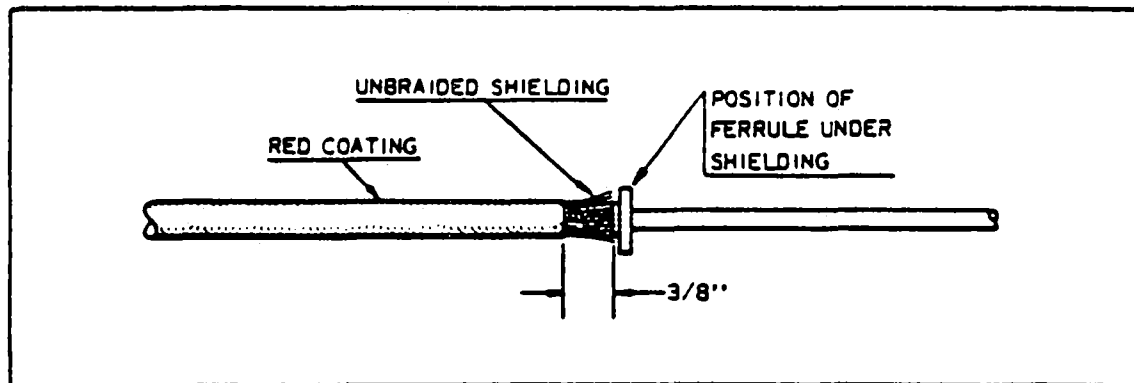
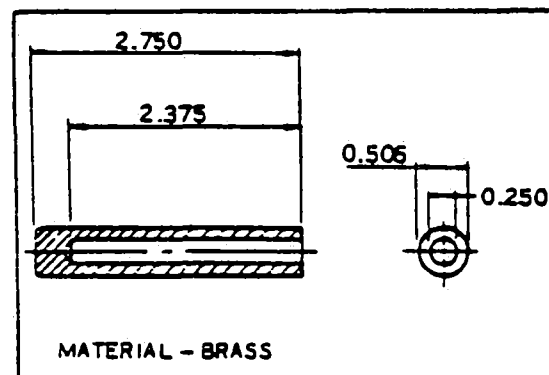

Figure 8-20. Forming Shielding Around Ferrule
Figure 8-21. Ferrule Seating Tool
11. Pass the taped end of new lead through hole in outlet plate. Remove electrical tape from lead and install tapered end of ferrule under the braided strands of shielding. Form strands of shielding evenly around tapered ferrule as shown in Figure 8-20 and pull lead assembly back through cable outlet plate until ferrule binds in the outlet well. Position the Scintilla 11-7074 Ferrule Seating Tool (Figure 8-21) over the wire and firmly seat the ferrule by tapping the seating tool with a hammer or by using an arbor press.